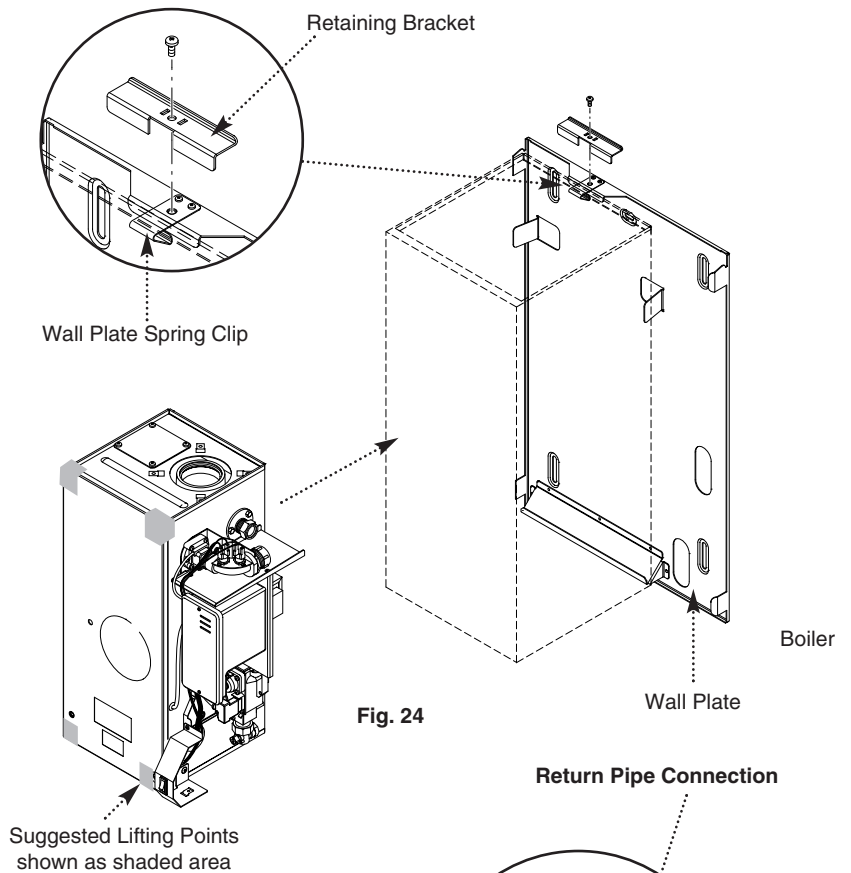

Fig. 24
8.3 Fitting The Boiler (Fig. 24)
2. Offer up the boiler to the wall plate using the lifting points shown in Fig. 24 and locate the rear bottom edge onto the self locating support at the base of the wall plate (See **Lifting** paragraph page 4).
NOTE: When installing in Loft/Small Compartment access for lifting the boiler from the front can be gained for two people using the lifting points (Fig. 24).